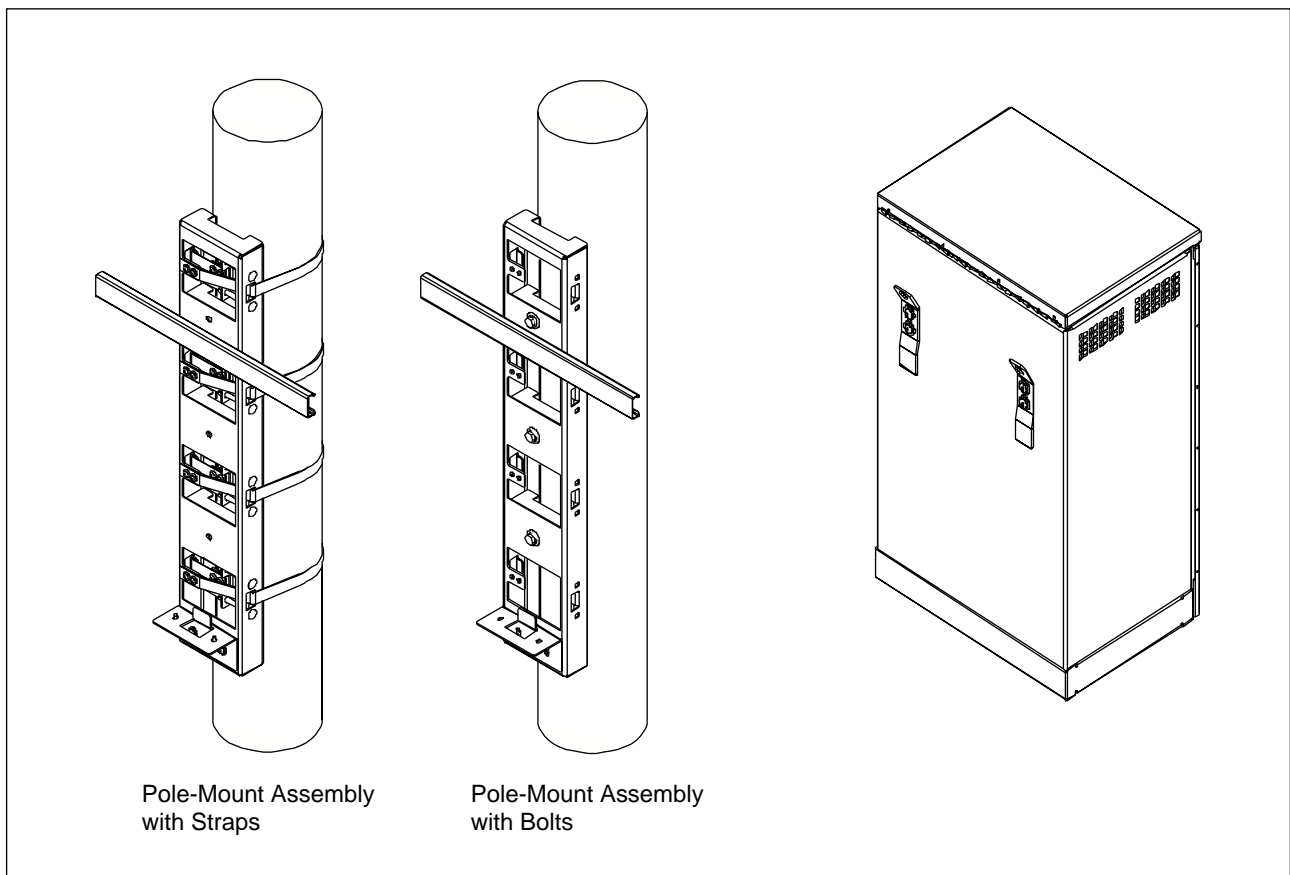

Figure 4-7. Pole-Mount Assembly Installations
9. Ensure the bracket is level and tighten the nuts on the carriage bolts using a ratcheting box wrench. See Figure 4-7 on page 4-19.